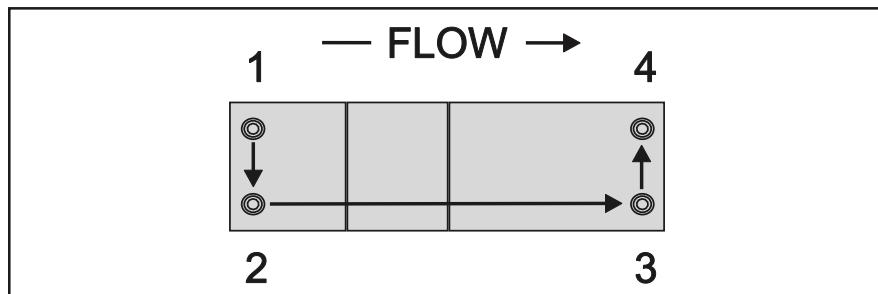

Figure 2-6 Mounting Screws Torque Pattern\*
4. Using a torque wrench and a metric hex key, tighten the screws to the torque value as described in Table 2-2 and Torque Pattern Figure 2-6.